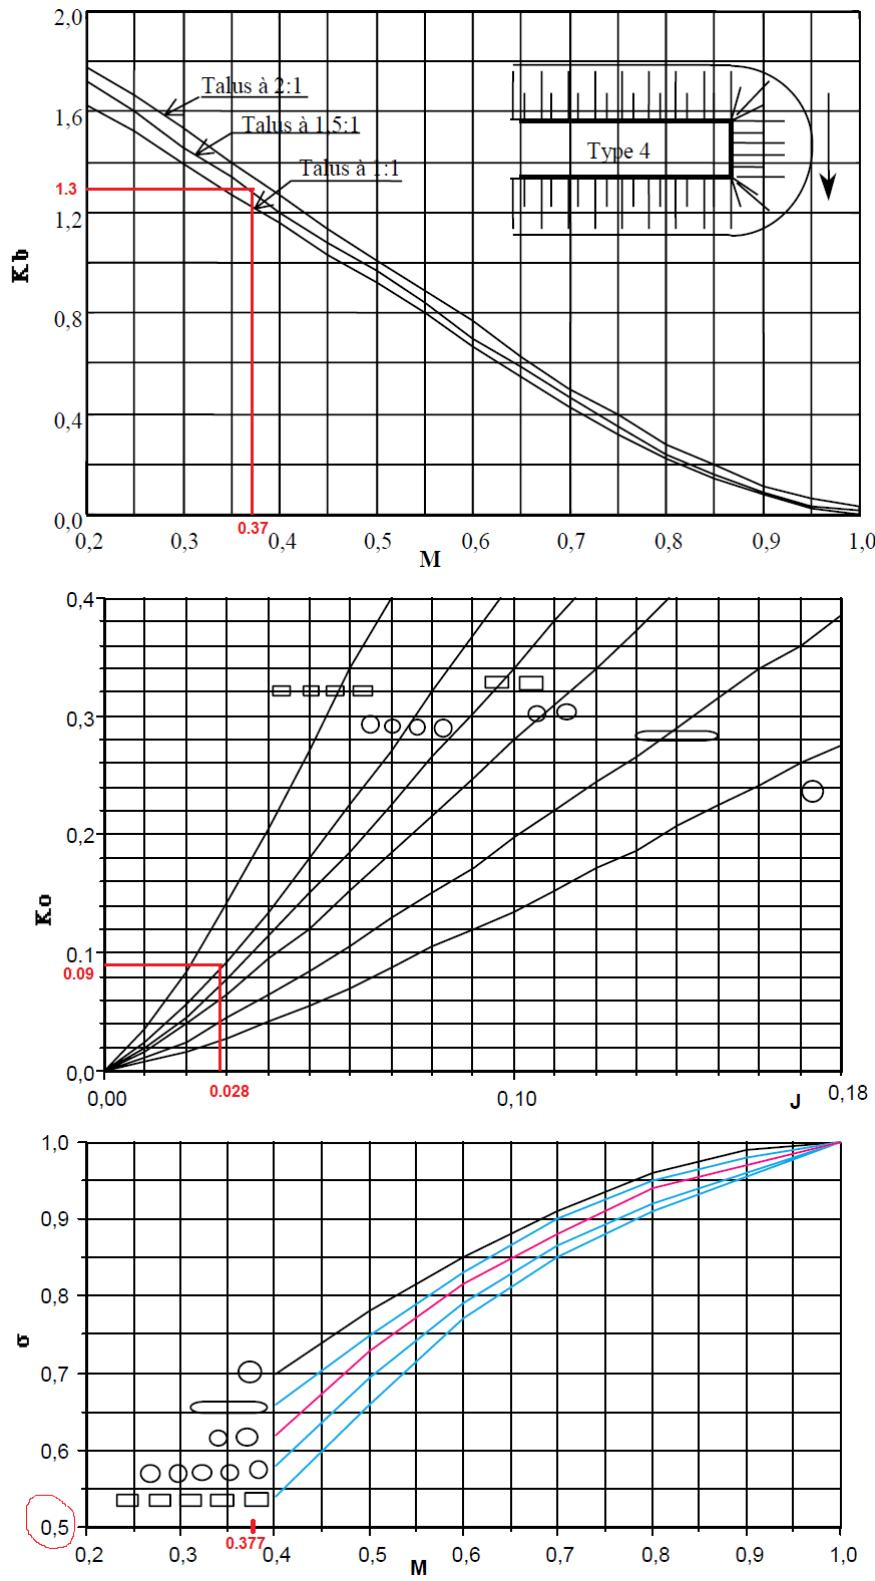

FIGURE 2 –
- $K^* = K_b + K_p + K_e = 1.3 + 0.04 + 0$ (voir la figure 2)